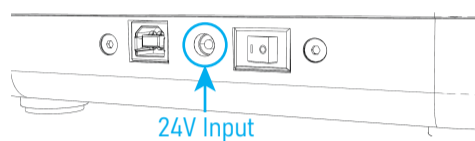

Figure 7
01. Insert the power adapter into the power input interface of M1 (as shown in Figure 7 below), then power on the power adapter and turn on the power switch of M1. Then the screen of M1 lights up.